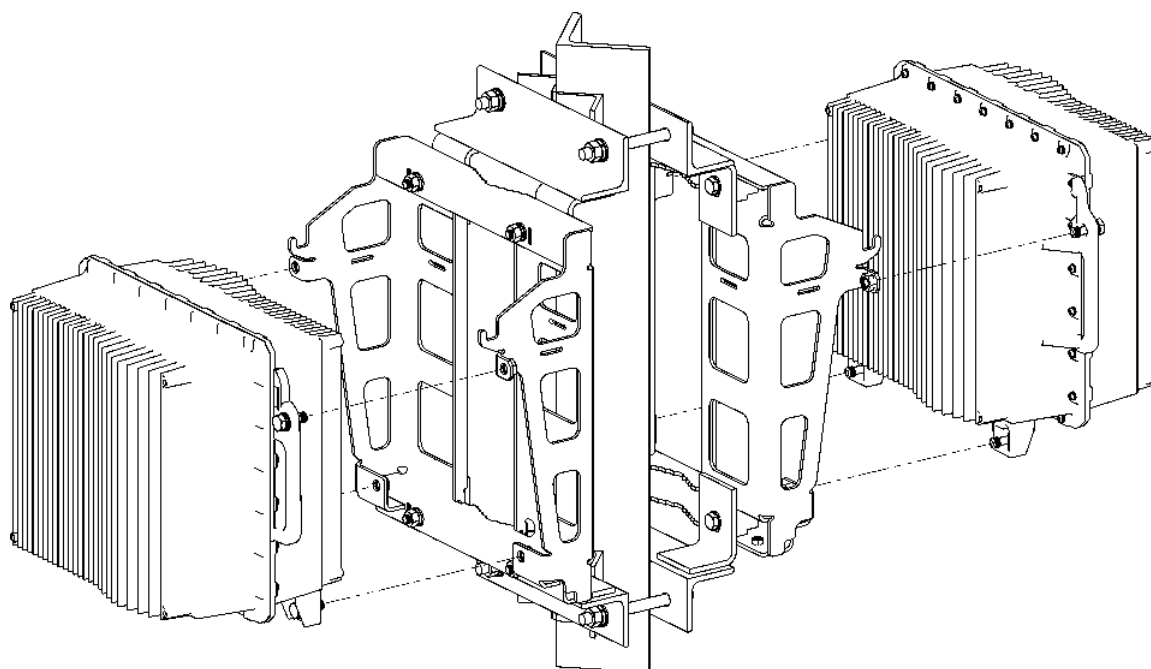
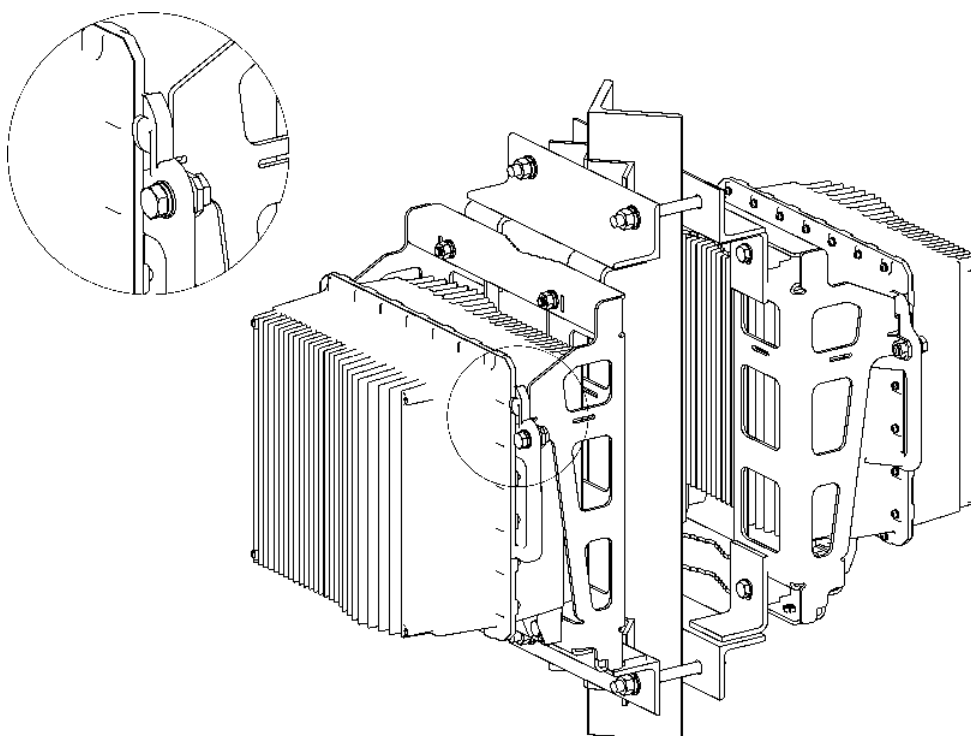

Figure 13: Mounting the ODUs on the Carriages
Figure 14: Two 2x2/4x2 ODUs Mounted on the L-shape Mast
- 5 Tighten the M10x30 screws (Figure 13 and Figure 14). Apply torque of 20 [N*m] (177 [lbs*in]).